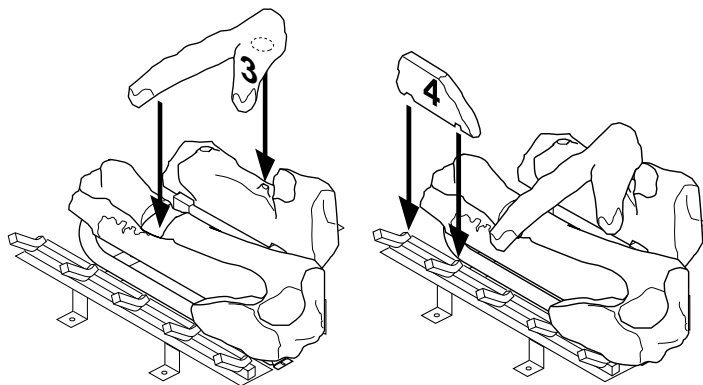

Figure 57 - Installing Log No. 3      Figure 58 - Installing Log No. 4
3. Place log #3 (crossover log) onto the rear and front logs. Make sure it is seated properly into the notch on the front log and over the raised triangular portion of the rear log as shown in Figure 57.